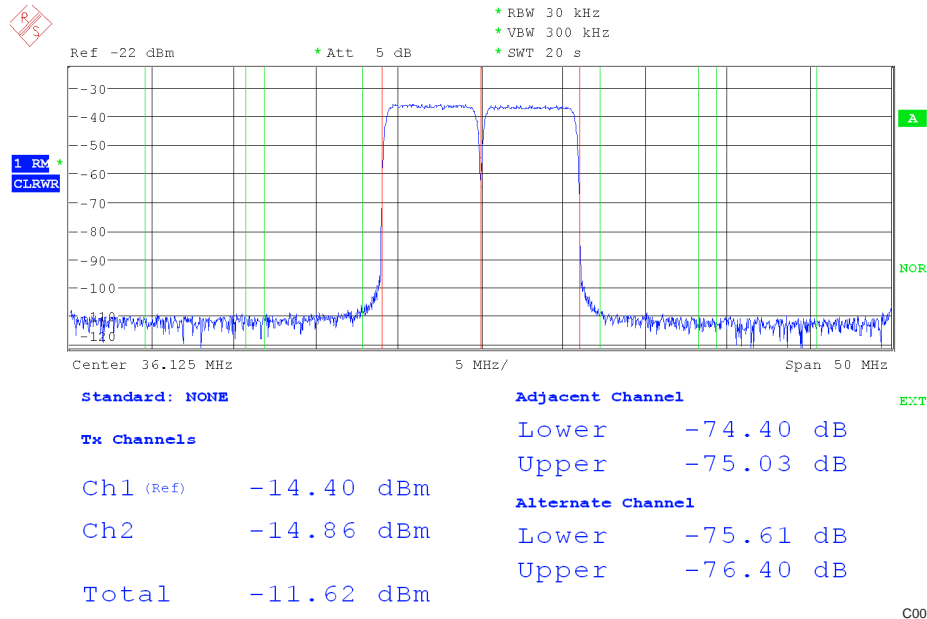

Figure 80. Two QAM256 Carriers With at 36-MHz IF
**Table 18. Signal and System Properties for Complex IF System Example in Figure 80**